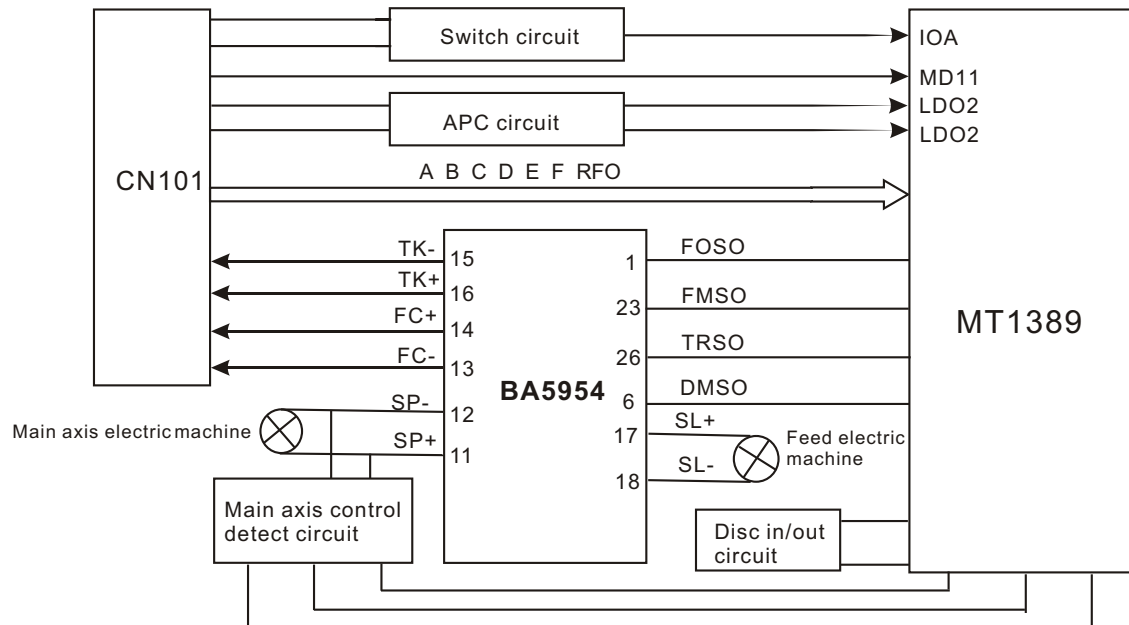

Figure 3.1.3.1 Servo circuit block diagram
1. **Servo circuit** block diagram is shown as in the following figure 3.1.3.1: